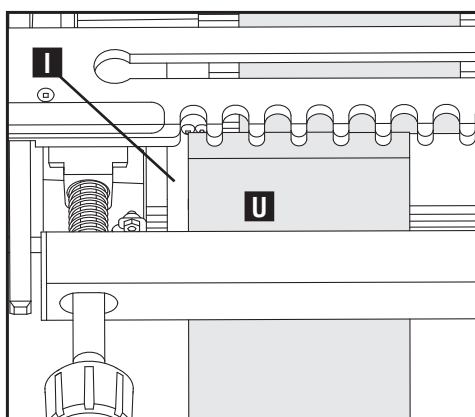

Fig. F11
9. Move the silver left edge guide (I) Fig. F11 to the right so it is flush with the left edge of the vertical tailboard (U). Tighten the guide.